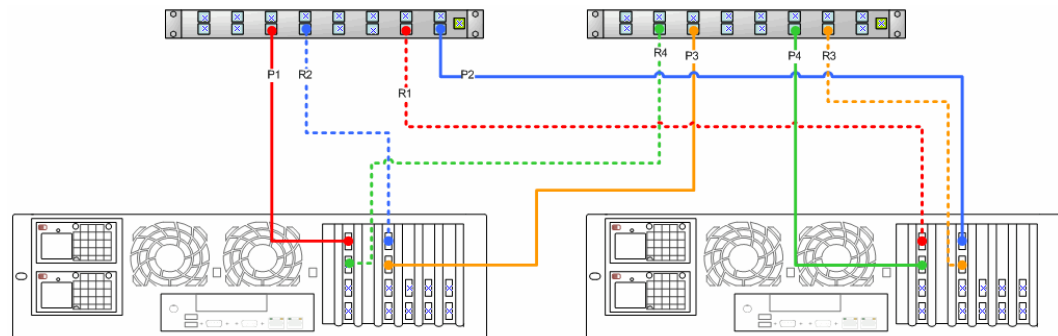

Figure 45. Primary and Reserved Ports in Legacy Mode
In Legacy Mode, Fault Domains associate Primary and Reserved Front End ports to one another. The Primary and Reserved ports designate the port to which traffic is moved in the event of a failover or revert. Figure 45 illustrates four legacy port fault domains. Each fault domain requires a Primary (P) and Reserved (R) port. Reserved ports do not carry data unless a Primary port fails — thus only half the ports are used.